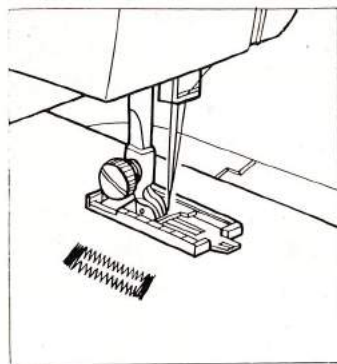

Fig. 22
1. Turn the hand wheel toward you to raise the needle. Remove the usual presser foot and attach the buttonhole foot shown in Fig. 22).